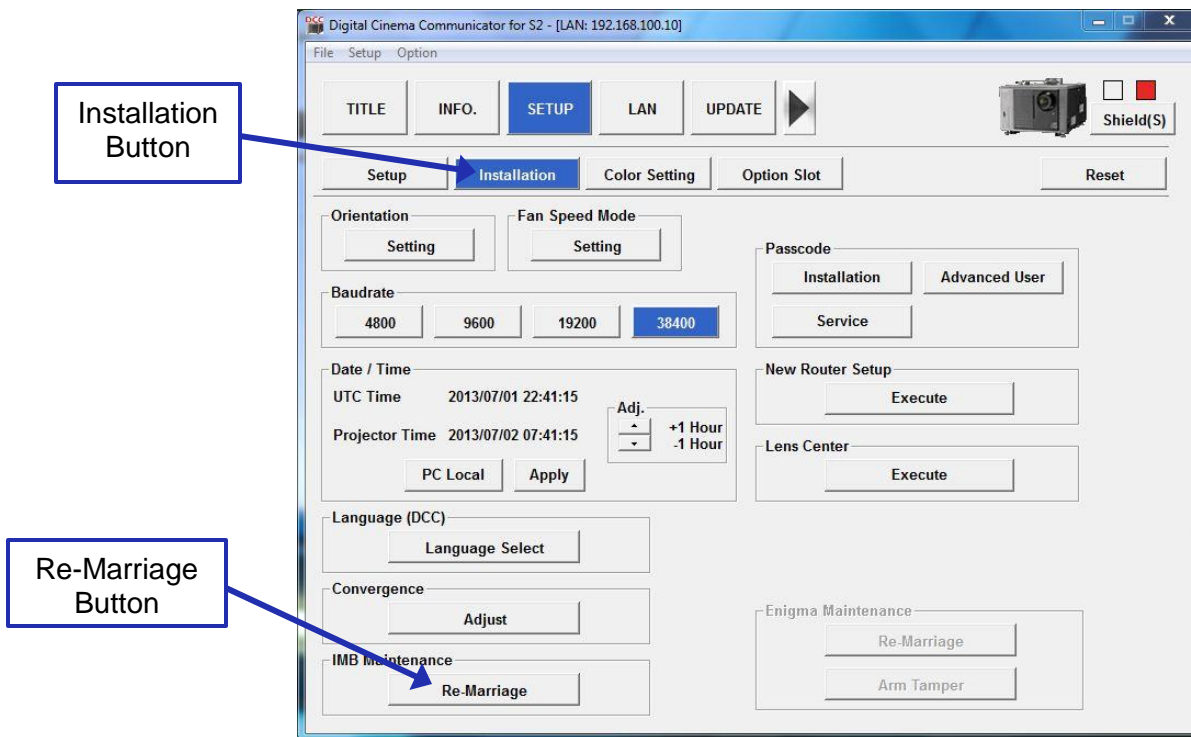

Figure 37: Re-Marriage Button
- Click the Installation button and then click the Re-Marriage button (Figure 37).